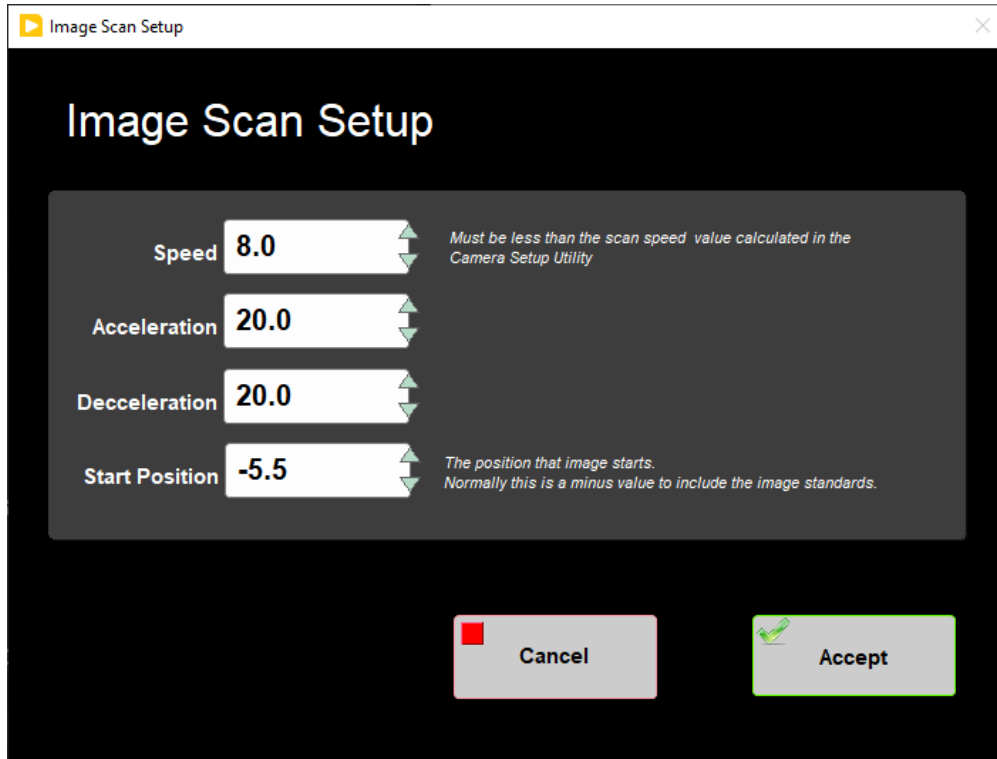

Figure 36. Image Scan Setup window
1. DAQ > Image Capture Motion Setup (Figure 36)